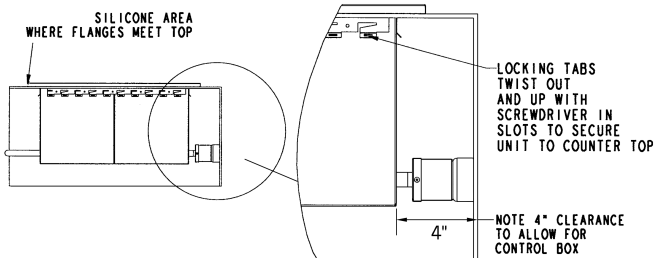

figure 2
Note: 20" of cable is supplied with the unit. Be sure holes are within cable reach. Allow minimum 4" clearance for control box as shown in figure 2.
Install unit in opening with controls forward using long flat screwdriver. Secure unit with locking tabs provided as shown in figure 2.
Mount control panel(s) in cutouts with screws, rivets or other fasteners (not provided). Refer to figures 2 and 3 (cutout dimensions C, C2, and D are specified in table seen in Step 1). To facilitate control panel installation, the recessed panel can be removed from the control box by removing control knobs and (2) #8 drive screws.